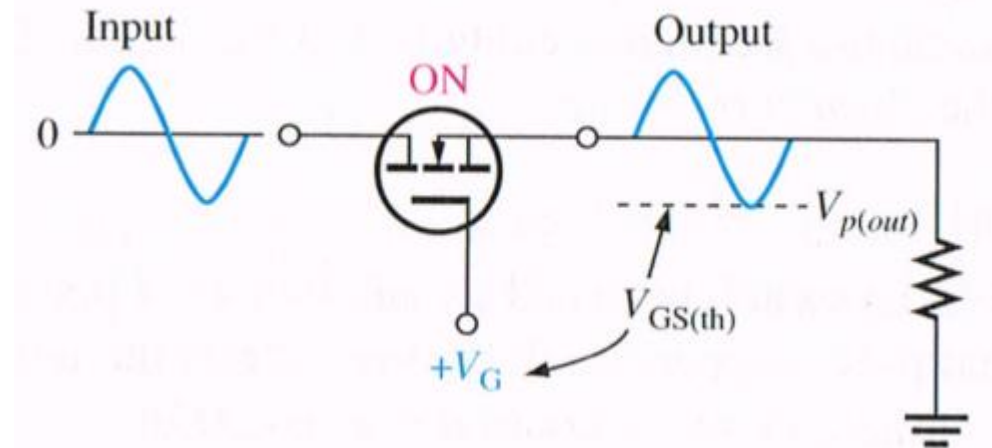

FIGURE 4-55 Signal amplitude is limited by $V_{GS(th)}$.
- Fig. 4.55 : **Als analoge schakelaar aan is :**
A certain analog switch similar to the one shown in Figure 4-55 uses an n -channel MOSFET with $V_{GS(th)} = 2\text{ V}$. A voltage of $+5\text{ V}$ is applied at the gate to turn the switch *on*. Determine the maximum peak-to-peak input signal that can be applied, assuming no voltage drop across the switch.